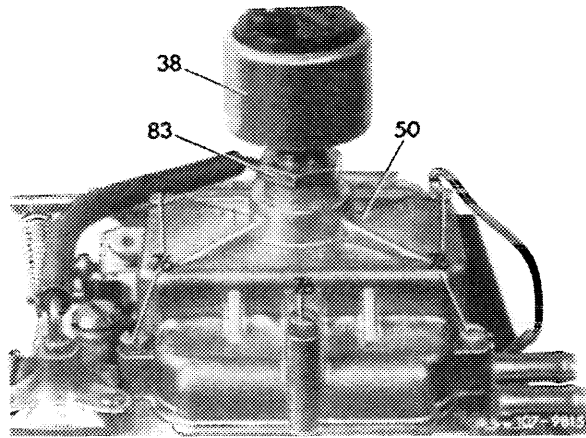

Fig. 07-4/9a
14 Loosen hex. nut (83) on idle speed shutoff valve (38) and unscrew shutoff valve (Fig. 07-4/9a).